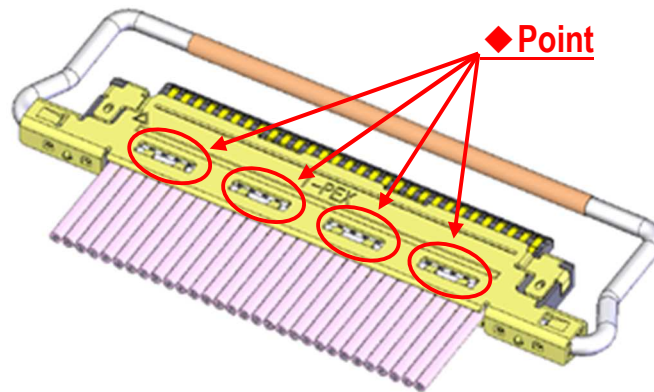

Fig.8 Soldering of SHELL-A and GND BAR
- ③ Soldering SHELL-A, B and GND BAR with the soldering iron at all designated points is recommended. (Fig.8,9 ◆ point)